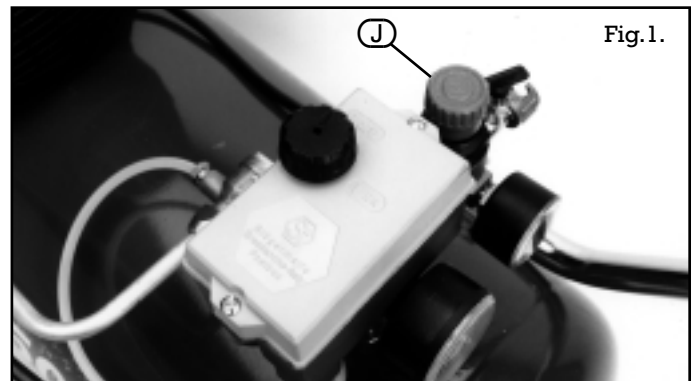

Fig.1.
1. **CAUTION:** You must remove the plastic transit bung from the oil sump and replace it with the dip stick (provided) before any initial use of the compressor to avoid any long term problems. Connect the compressor to the power supply. Always turn the machine on and off by means of the appropriate switch (A) Fig.1. located on top of the pressure switch box.